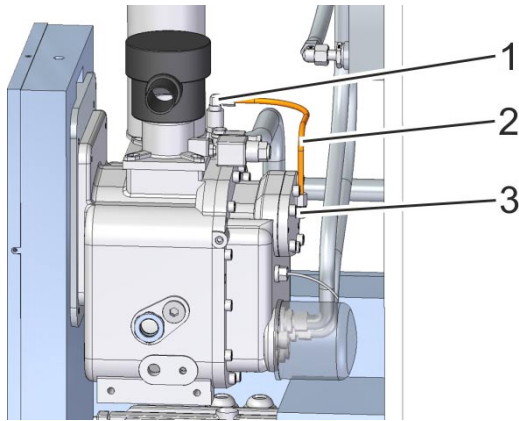

Fig. 41: Return line
5. Unfasten the return line (Fig. 41/1) on the air/oil separator (Fig. 41/2) and the compressor airend (Fig. 41/3).
6. Clean the return line (Fig. 41/1) and nozzle. If necessary, replace them with original spare parts (↗ *Parts List*).
7. Place the nozzle and return line (Fig. 41/1) back in position and tighten the screw connections.